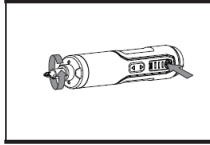

Fig.C1
1. FORWARD/REVERSE OPERATION (SEE FIG. C1, C2)
Press either end of the forward/reverse operation button to start the screwdriver. Release it completely to stop the screwdriver. Forward rotation (clockwise): Press the forward button switch to drive screws (Fig. C1).